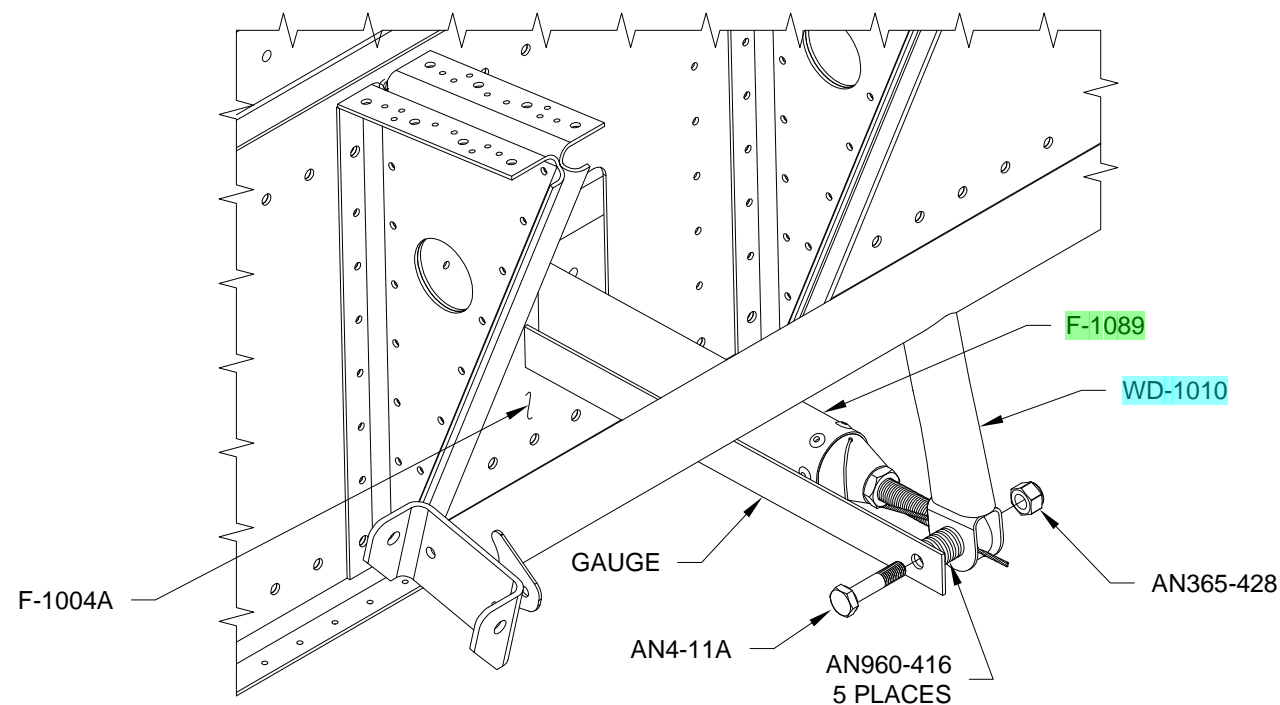

FIGURE 2: CONTROL COLUMN NEUTRAL POSITION
Step 2: Check the neutral position of the WD-1010 Control Column. Clamp the F-635 Elevator Bellcrank in its neutral position. See Page 11-7. Insert an AN4 bolt through the gauge. Lower the gauge and bolt into the tunnel and slip the bolt through the control column center clevis pinning the F-1089 Elevator Pushrod (Fwd) as shown in Figure 2. When the aft end of the gauge is butted up against the F-1004A Center Section Bulkhead the control column is in its neutral position. Adjust the F-1089 and/or F-1090 Elevator Pushrod lengths if/as required to move the control column to its neutral position.